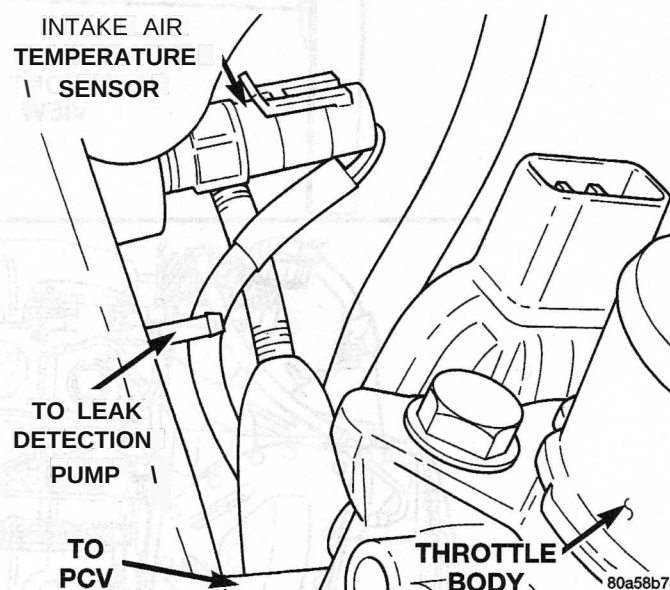

Fig. 24 Intake Air Temperature Sensor Connector, Leak Detection Pump Hose, and PCV Hose
(8) Disconnect intake air temperature sensor, leak detection pump and PCV hoses (Fig. 24).
(4) Install throttle body. Tighten fastener to 22 N·m (200 in. lbs.). Install transaxle to throttle body support bracket and tighten to 12 N·m (105 in. lbs.) at the throttle body first. Next tighten the bracket at the transaxle.
(5) Connect PCV; leak detection pump hoses, and intake air temperature sensor wiring connectors (Fig. 24).